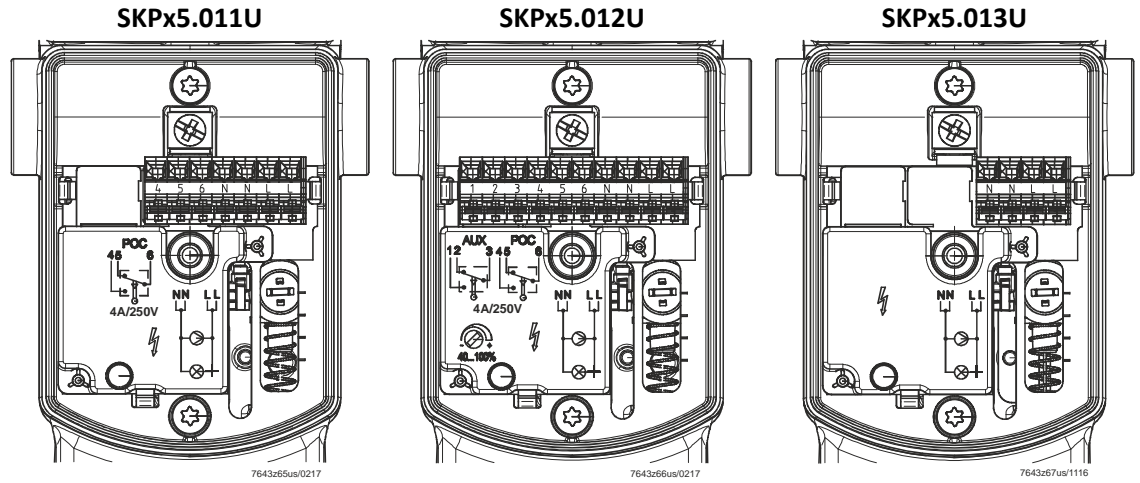

Figure 11. Terminal designations
- Adjust the auxiliary switch (if provided) according to the wiring diagram on the label below the terminals (see Figure 11). The adjustment screw and scale are located on the right side of the terminal box, and are visible through the transparent portion of the terminal cover.